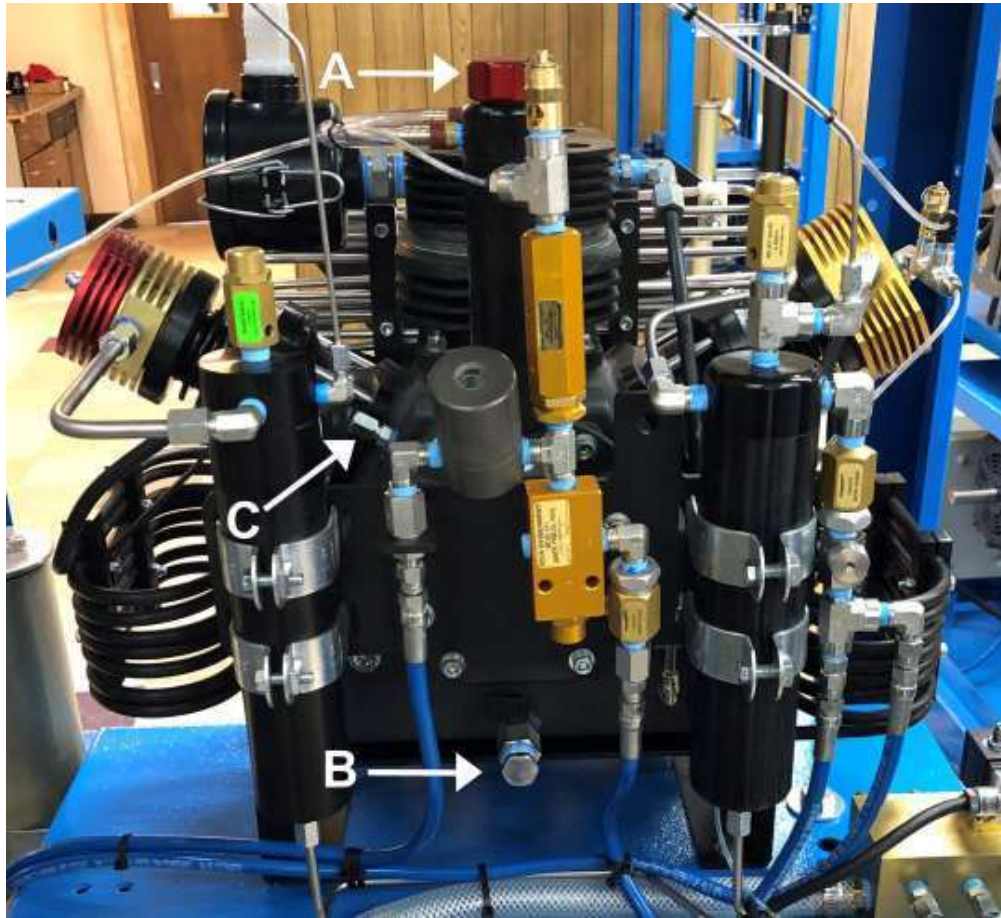

Figure 6.2 Oil Drain, Fill Cap, and Crankcase Vent Locations
2. Place drain pan under the drain. (“B” Figure 6.2)
4. Allow all oil to drain from reservoir. Open Fill cap (“A” Figure 6.2) to speed draining.
1. Remove the cap from the crankcase vent to allow air to escape as oil is added (“C” Figure 6.2)
2. Remove the Oil Fill Cap (“A” Figure 6.2) Refill the oil reservoir slowly, allowing oil to settle before checking sight tube.